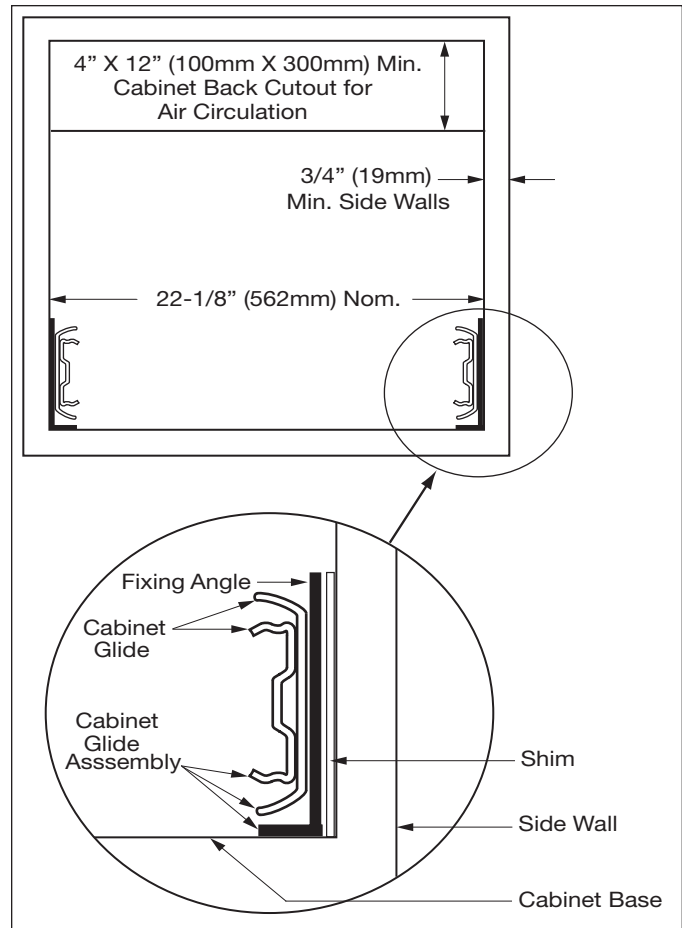

Figure 2-6 . Cabinet Glide Installation (Fixing Angle)
1. Determine the number of metal shims required to mount the cabinet glide assemblies according to the chart and diagrams below. The appliance is supplied with six 1/16" (1mm) metal shims. Use the shims to position the fixing angles so that they are properly spaced. The appliance will not slide in and out of the cabinet properly if the fixing angles are not properly spaced. (See Figure 2-6)
4. Make sure the outside distance between the fixing angles is 22-1/8" (56.2cm) and that the glides are level. Change the number of shims or adjust the fixing angles as necessary. (See Figure 2-6)